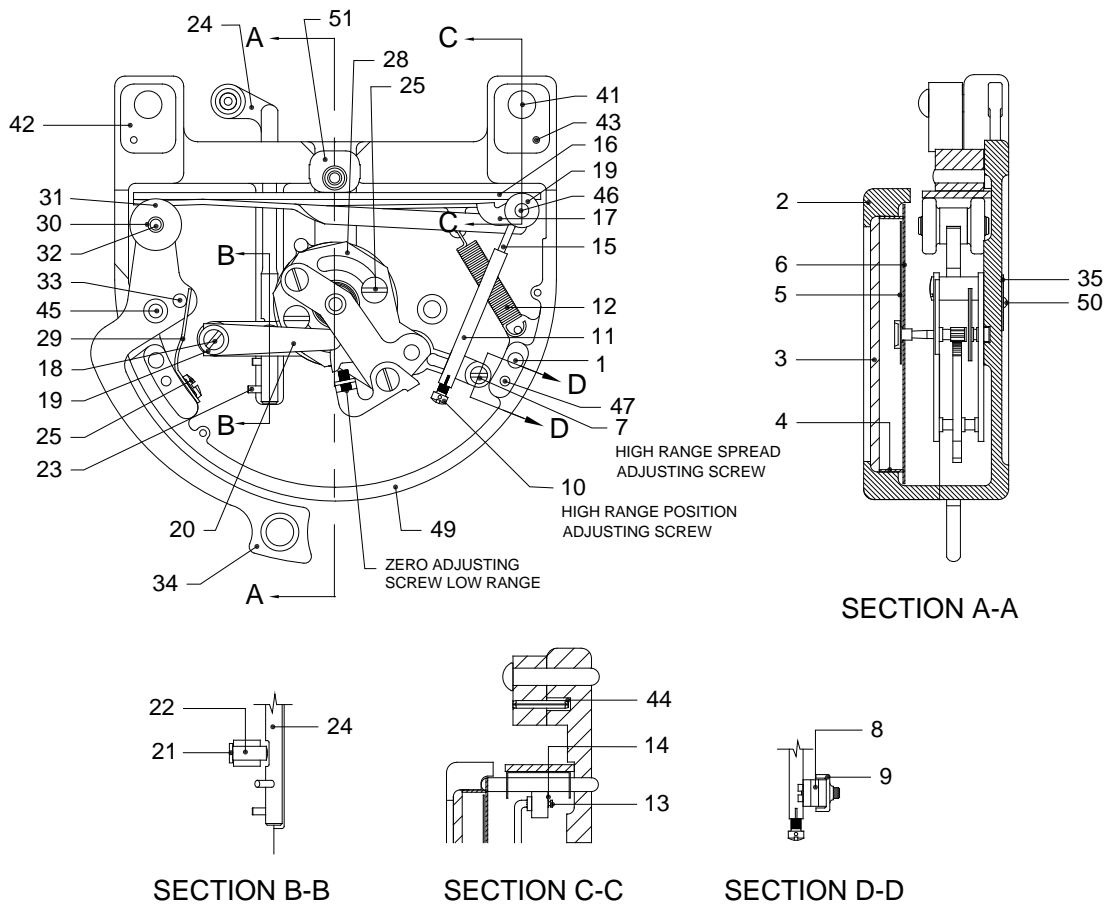

Figure 1-Detailed Description
- 2-3. **SECTORS AND RISERS-** The offset in the cable is affected by passing it between two hardened pivoting steel sectors (42 and 43) and a retractable hardened steel riser (51) located midway between the sectors. The riser rests on the mainspring leaf assembly and is held in position by riser clip assembly (17). The pivoting sectors function as rollers of large diameters to span the depressions between the cable and pivot slightly caused by offsetting of the cable. The pivots are held in their outward position by sector springs (44) set in recesses in the case (49), causing the sectors to bear against sector pivot pins (41) which are a press fit into case (49). (See Figure 1)
- 2-4. **TRIGGER-** In order to pass a tight cable between the two sectors (42 and 43) and over the riser (51), the riser is retracted by lowering one end of which is attached to the main spring pivot pin (46). The free end of the mainspring leaf assembly rests on two trigger rollers (31), which are attached to lever trigger assembly (34 See Figure 9) of the trigger assembly (30 thru 34). The lever assembly or trigger lever project from the side of the instrument case. Opening the lever assembly or trigger lever lowers one end of the mainspring leaf assembly (16, See Figure 1) and the riser (51). Closing the lever assembly or trigger lever raises the mainspring leaf assembly along with the riser, and therefore lever raises the mainspring leaf assembly along with the riser, and therefore creates the offset in the cable. An angled flat trigger spring (29) is provided to give an over center snap action to the lever assembly or trigger lever. The drawing of the T5-2000 Series Tensiometer on the title page shows the standard lever assembly used only on this series. The T5-8000 series utilizing a mitten grip is also depicted on the title page.
- 2-5. **MAINSRING-** The reaction of the cable offset bows the mainspring leaf assembly (16). An arm riveted to the fixed end of the main spring leaf assembly becomes tangent to the bowed mainspring leaf assembly, producing a substantial movement to the opposite free end of the mainspring leaf assembly.
- 2-6. **MOVEMENT AND LINKAGE-** The movement referred to in the preceding paragraph is transmitted by the linkage rod (15) and sleeve assembly (11) to the movement assembly (28). The linkage rod and sleeve assembly move as a unit, except when the pointer (5) is locked in position. The movement assembly is a self-contained brass unit comprised of a toothed segment meshing with a pinion gear on the pointed arbor. The outer end of the segment meshing with a pinion gear on the pointed arbor. The outer end of the segment consists of a slotted arm, to which the linkage rod (15) is attached. The purpose of the slot is to provide a means of adjusting the range of the Tensiometer. A hairspring is provided in the movement to eliminate backlash in the gears and to return the pointer to zero. An adjustable segment stop-screw (7) is provided to limit the travel of the segment, thus providing a more positive zero adjustment.
- 2-7. **BRAKE-** The brake lever rod (24) serves to lock the Tensiometer pointer in the event that dial (6) cannot be seen when taking a reading. The lock consists of two flat bronze springs (20 and 21). The longer brake spring (20) is set to normally bear against the segment of the movement, to hold it by friction when the brake lever is in the locked position. The shorter brake plunger spring (21) is to provide a snap action to the brake lever rod. Rotating the brake lever rod (24) lifts the two springs by means of brake plunger (22), which normally rides on a recessed flat in the brake lever rod.
- 2-8. **NON-OPERATING PARTS-** The foregoing covers the operating parts of the Tensiometer. The remaining parts are the case (49) on which all the operating parts and the dial (6) are mounted, and the cover (2) into which the glass (3) and bezel (4) are fitted.
KEY TO FIGURE 1